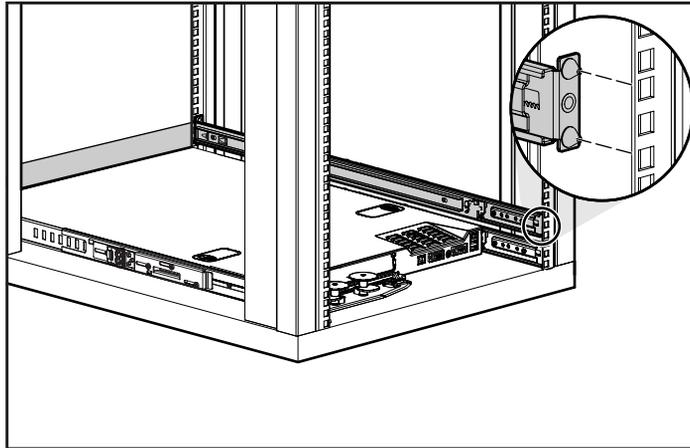
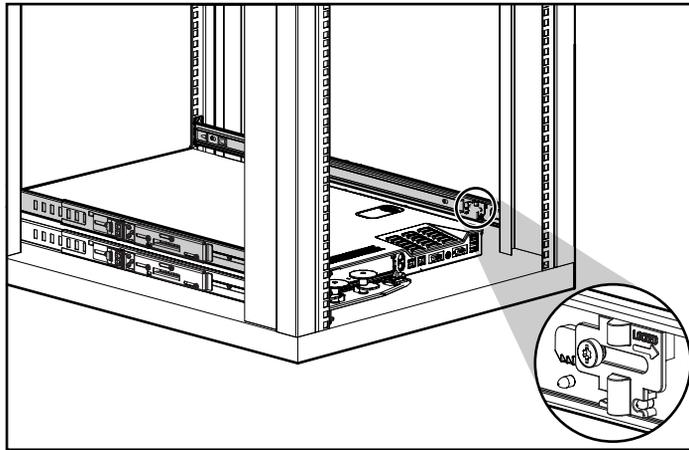

Figure 4-5. Aligning the rear alignment pins of the fixed rack rail with the rear holes (rear view)
Figure 4-6. Universal rack rails installed in the rack ready for server installation (rear view) and rail-lock shown in locked position
10. Insert the rear alignment pins into the rear holes, and release the rail, Figure 4-5. Move the sliding rail-lock to the 'lock' position to hold and secure the universal rack rail in place, Figure 4-6.
Repeat steps 2 through 10 for the second universal rack rail. Figure 4-6 shows a completed installation of the universal rack rails.